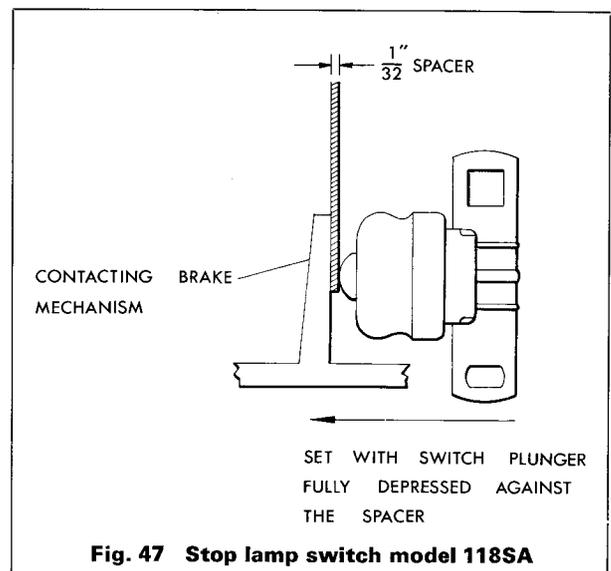

Fig. 47 Stop lamp switch model 118SA
- (ii) With the brake in the fully off position (brake lever against front stop), insert a  $\frac{1}{32}$ " (0.793 mm) spacer between the contacting brake mechanism and the switch plunger. Adjust the switch position so that the plunger is fully depressed (see Fig. 47).